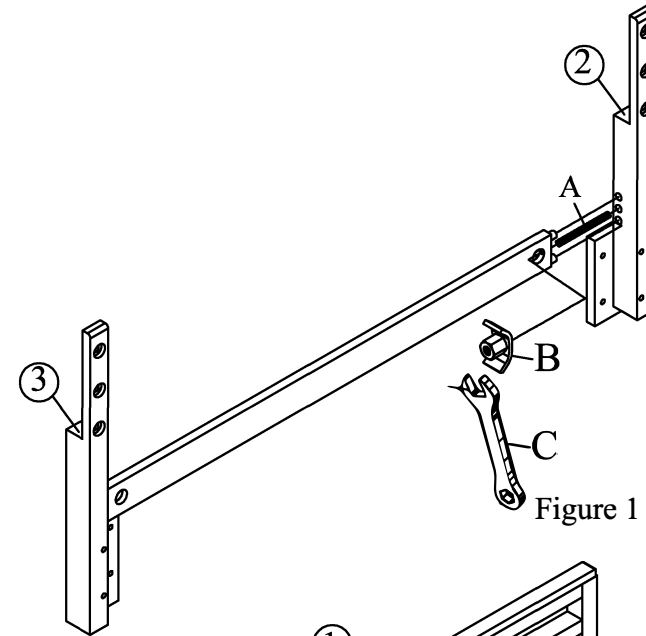

Figure 1
- STEP 1. Insert the two threaded bolt (A) into the headboard leg left (2) and right (3). Tighten by hand only.
- STEP 2. Insert the stretcher (4) into the threaded bolts protruding from the headboard leg (2), (3) use dowel as guide. Attach curve washer nuts (B) onto the threads and secure by hand at first. Tighten evenly using the spanner wrench (C). See Figure 1
STEP 1. Screw the bolts (A) into the two threaded holes that are at the bottom of the posts of bolt the headboard and the footboard. Slide the bed rail onto the two bolts (A) on one of the bed posts until the bolts (A) are visible through the holes on the inside of the bed rail. See Figure 1.
STEP 2. Slide a curve washer nuts (B) onto the bolts (A) through the holes in the bed rail. Tighten all the curve washer nuts (B), using the spanner wrench (C). See Figure 1.